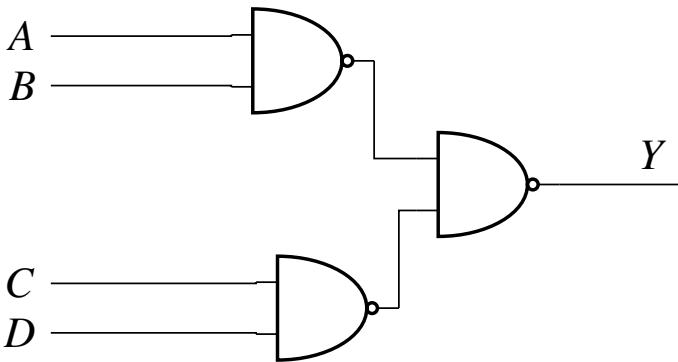

Fig. 3.37
55. In the logic circuit shown in Fig. 3.37,  $y$  is given by \_\_\_\_\_ (GATE-EE 2018, 14)